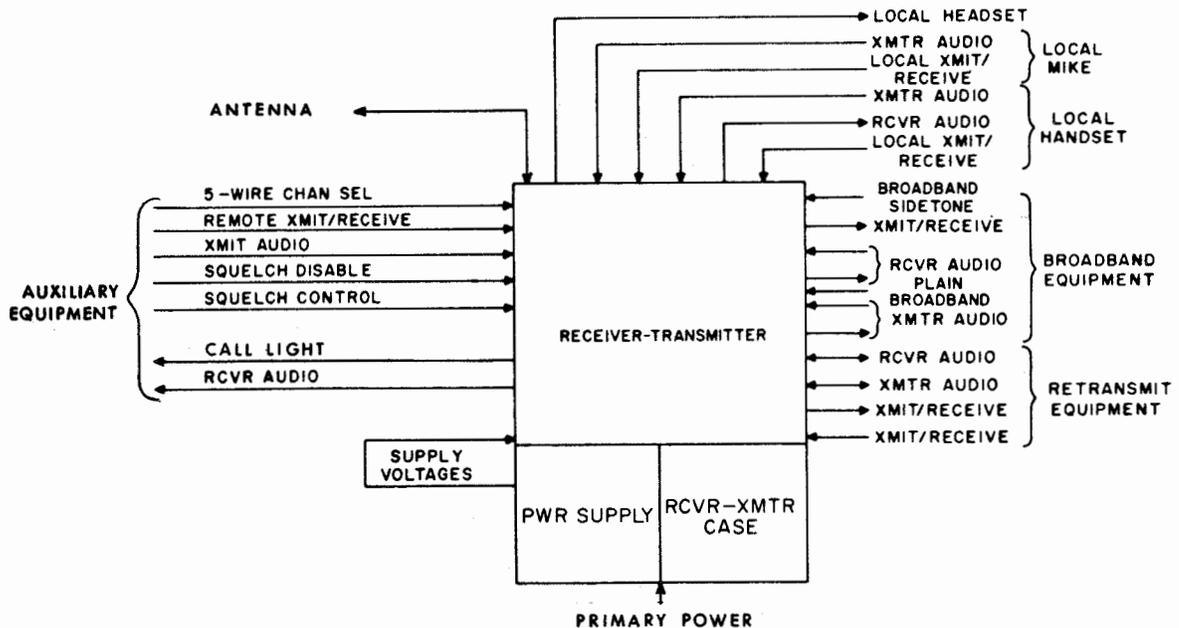

Figure 3-1. Radio Set AN/URC-9(), Basic Block Diagram
3-2. Radio Set AN/URC-9() is a ship-board unit designed to operate in the ultra-high-frequency (UHF) range. The unit is a transceiver capable of both transmitting and receiving amplitude-modulated (AM) telephone signals and tone signals. The overall block diagram of the radio set (figure 3-1) illustrates the relationship of the basic assemblies to each other and to external equipment. Refer to paragraph 1-9 for a description of the major assemblies comprising Radio Set AN/URC-9().